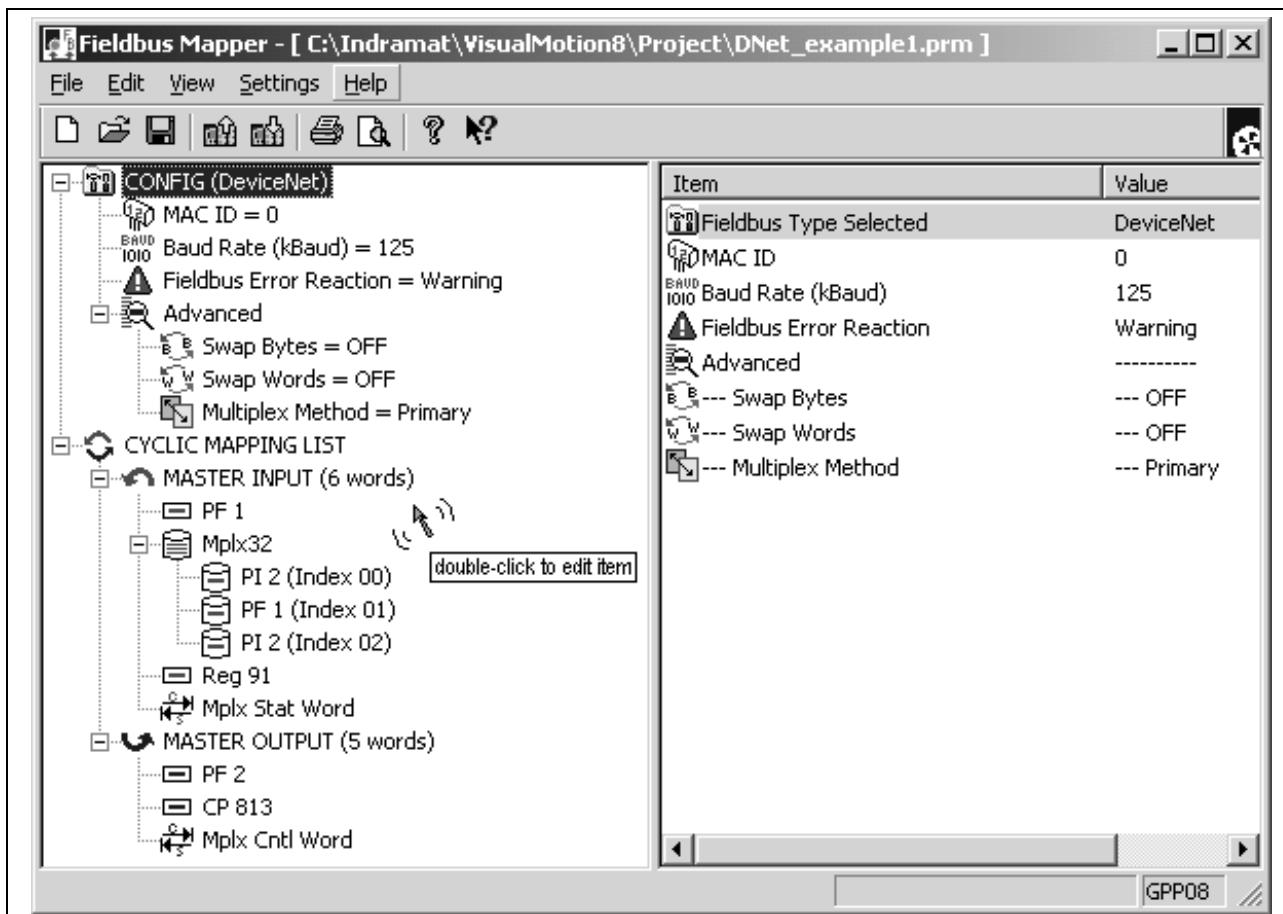

Fig. 7-6: Fieldbus Mapper Main Screen (Complete)
3. Click **Open**. The main Fieldbus Mapper screen appears, which lists the configuration information. Refer to *Fig. 7-6* below.